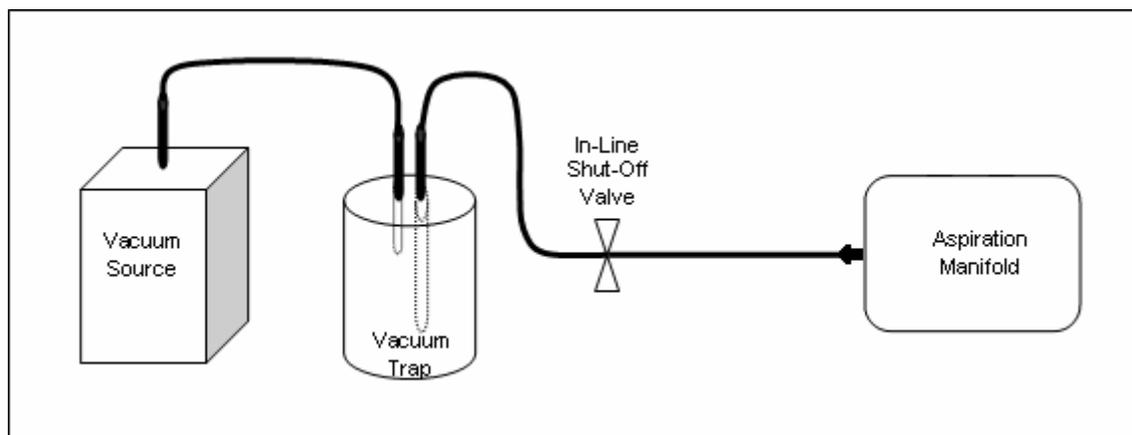

Figure 3. Manifold Setup: Connection to Vacuum Source.
1. Attach one end of a vacuum hose to the nozzle Quick Connect Fitting (10) on the manifold and other end to a valve connected to a vacuum source (Figure 3, below).